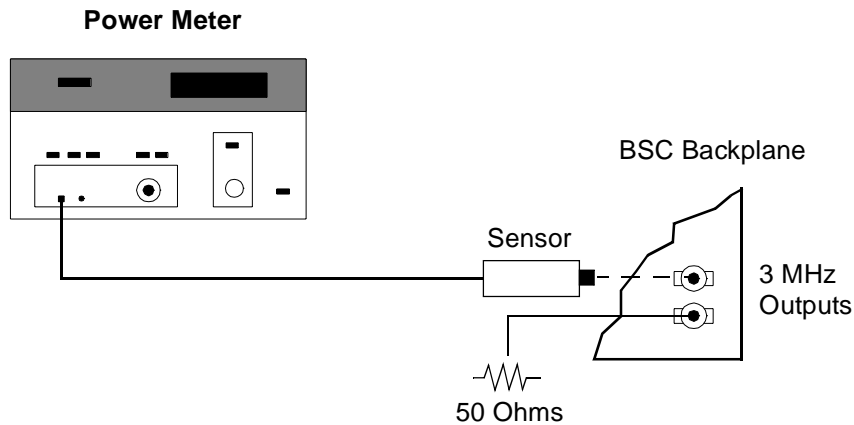

Figure 10 RDM Level Correction - POWERREF Measurement
4. See figure 10. Connect the power meter sensor to a connector adapter, if necessary, attached to the URDM/RDM Phono #2 jack.